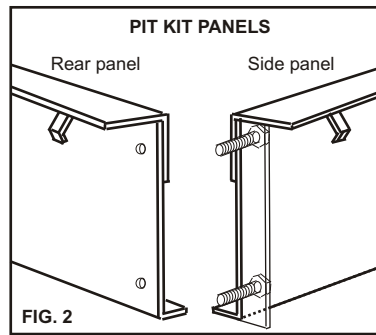

FIG. 2
2. Assemble the Pit Kit panels by bolting the rear corners together (see FIG. 2). Weld the side panels to the front angle (see FIG. 3) and ramset or otherwise secure the bottom of the assembled Pit Kit panels to the slab. The front of the side panels should be flush with the front angle. Shimming if required for side and rear angle to be flush and level with final finished floor surface..